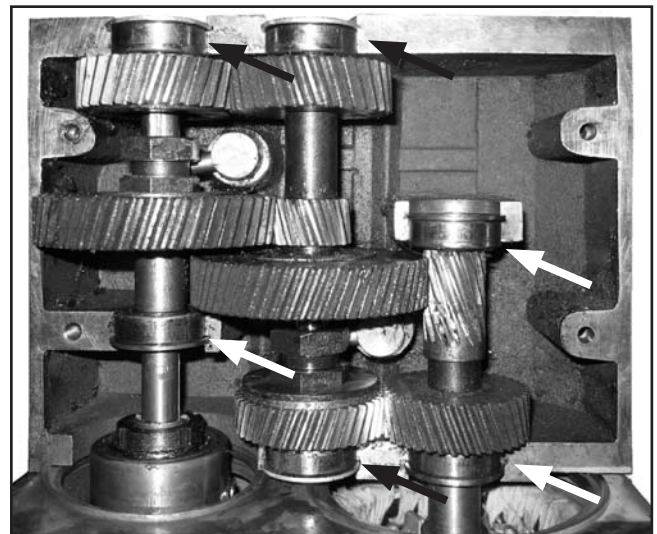

Figure 25. G0483 gearbox bearing locations.
3. Liberally paint the gears and bearings with an automotive-grade high-temperature wheel bearing grease. **Figure 25** shows the inside of the G0483 gearbox, with bearing locations indicated.